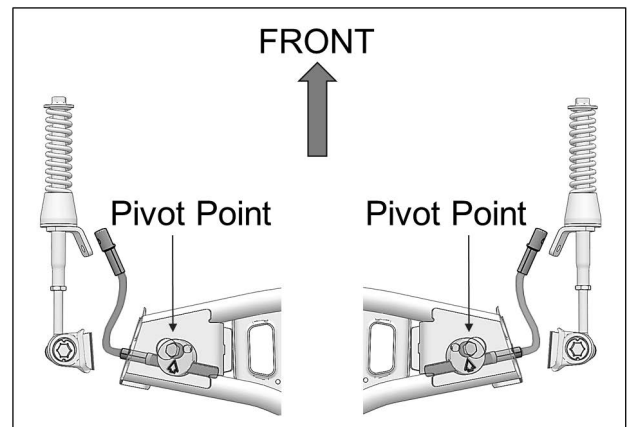

Fig. 24
16. Make sure aluminum disk pivot point is installed in front of steering limiter cable. See Fig. 24